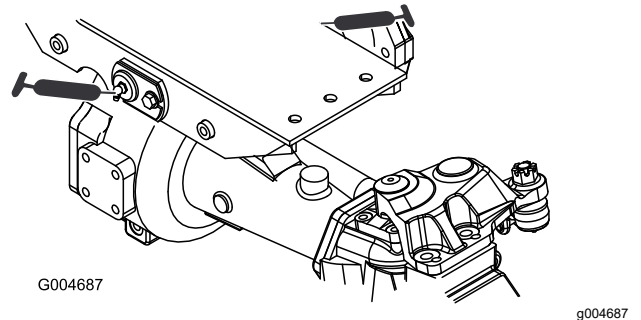

Figure 42
- 2 front and rear-axle-pivot bushings (Figure 42)